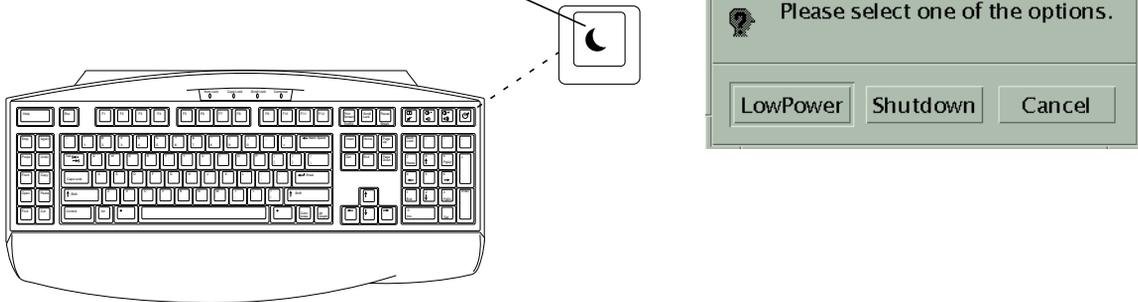

FIGURE 9-4 Sun USB Type-6 Keyboard Power Key and Power Off Selection Dialog Box
1. **Press the Sun Type-6 USB keyboard Power key** (see FIGURE 9-4).